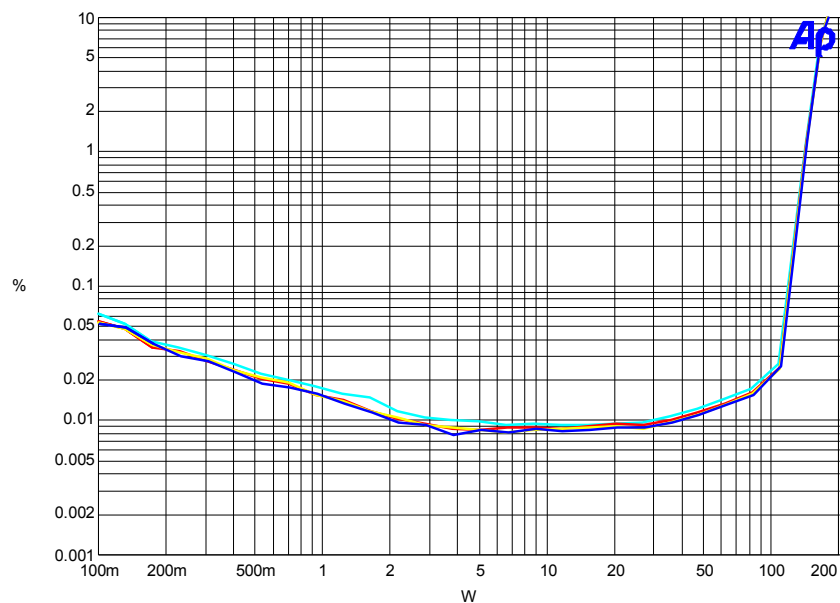

Fig 2 IRAUDAMP8, THD+N versus Power, Stereo, 4 Ω
21. Run Ap test programs for all subsequent tests as shown in Fig 2- Fig 7below.